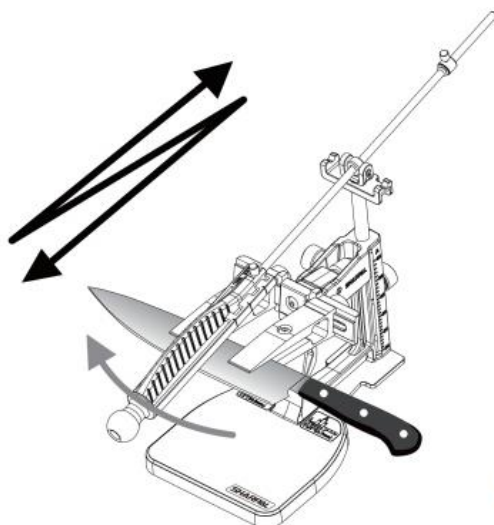

Fig. 14
2. Apply light pressure with long, smooth strokes, start at the heel of the blade. Slide the abrasive plate back and forth along the cutting edge towards the tip. Stop at the tip of the blade (See Fig. 14).